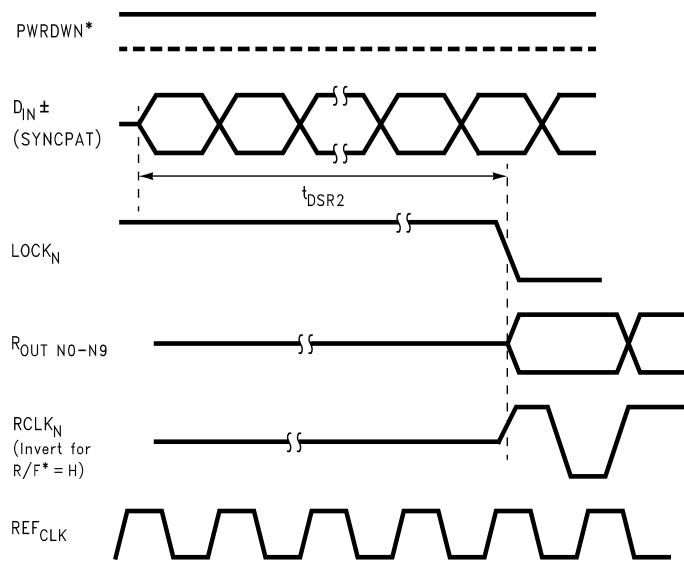

Figure 5. Locktime to SYNCPAT tDSR2
| $t_{DSR2}$ | Deserializer PLL Lock Time from SYNCPATSee <a href="#">Figure 5</a>See (5) | 40MHz     |      |      | 2   | us    |